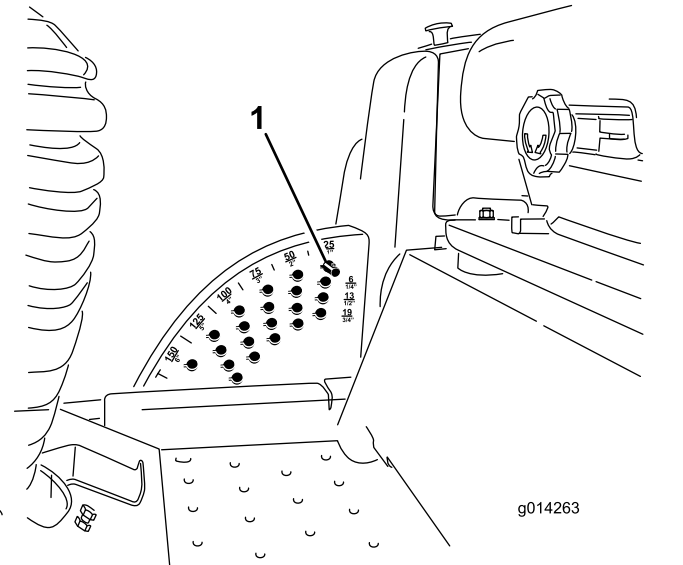

Figure 18
1. With the engine running, push back the deck-lift switch until the cutting unit is fully raised, and **release the switch immediately** as shown in Figure 18.
2. Rotate the height-of-cut pin until the nub on it lines up with the slots in the holes in the height-of-cut bracket and remove it (Figure 18).
the pin, and rotate it down to lock it in place (Figure 18).
Note: There are 4 rows of hole positions (Figure 18). The top row gives you the height of cut listed above the pin. The second row down gives you the height listed plus 6 mm (1/4 inch). The third row down gives you the height listed plus 12 mm (1/2 inch). The bottom row gives you the height listed plus 18 mm (3/4 inch). For the 15.8 cm (6 inches) position, there is only 1 hole, located in the second row. This does not add 6 mm (1/4 inch) to the 15.8 cm (6 inches) position.